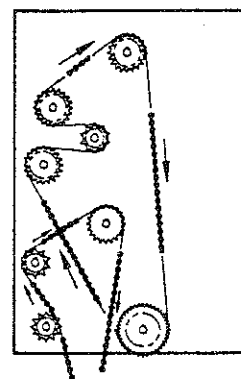

FIGURE 3.
3. LOCATE (PART# K203RS) TENSION BLOCK (ITEM #18) ON LEFT SIDE ASSEMBLY. RELEASE RELEASE TENSION SPRING (PART# K120LS)(SEE FIGURE 2.). THIS WILL ALLOW SLACK IN THE CHAIN (PART# K125LS) (ITEM #43) ON LEFT SIDE ASSEMBLY. NOW LOCATE MASTERLINK IN CHAIN, REMOVE AND REMOVE CHAIN FROM AROUND SPROCKETS. (SEE FIGURE 3.)